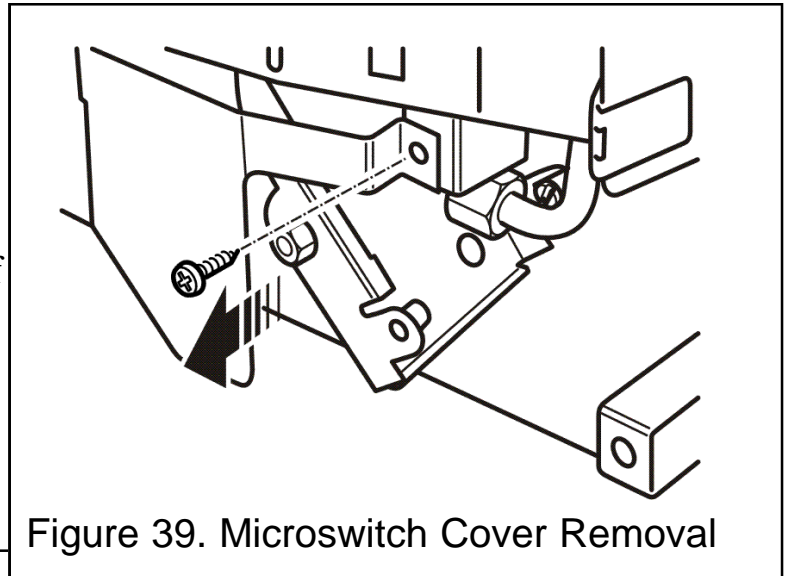

Figure 39. Microswitch Cover Removal
See figures 39 & 40
2. Detach the microswitch cover by removing one screw and pulling clear of the location lug. See figure 39.
See figures 39, 40 & 41.